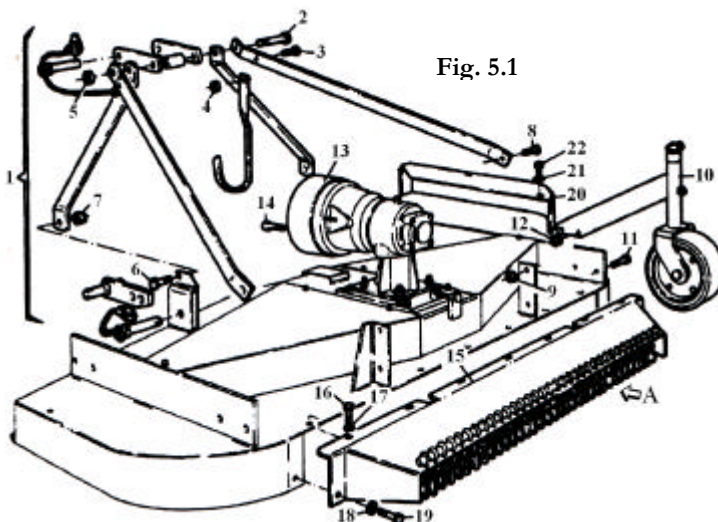

Fig. 5.1
- Mount the conveyor "15" using the screws "16" and "19" and the washers "17" and "18". **Fig. 5.1**